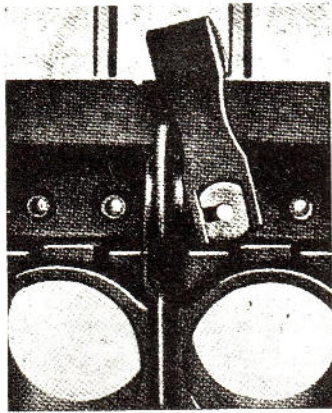
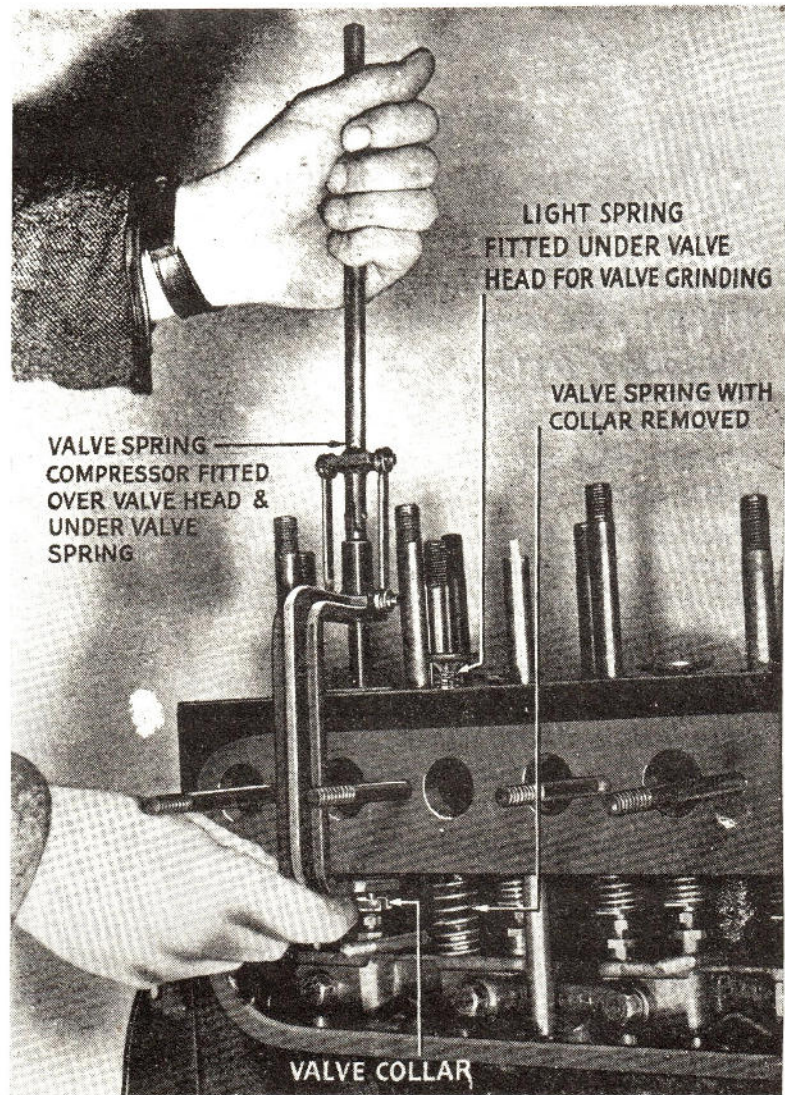

Fig. 20. Fitting valve spring compressor.
Fig. 21. Showing use of valve spring compressor without removal of tappets.
12. Remove the valves utilizing a spring compressor as shown in Fig. 20 and Fig. 21. Keep valves in order as removed. The valves should be numbered from the rear.